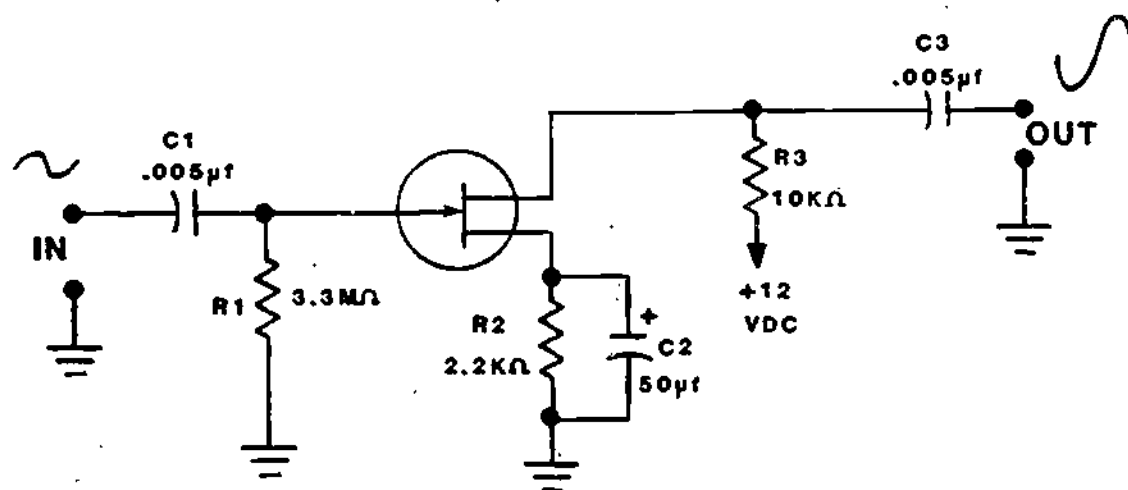

Figure 11
12. Figure 11 shows an amplifier circuit, using an N-channel JFET.
In Figure 11, source self-bias for the JFET is provided by components